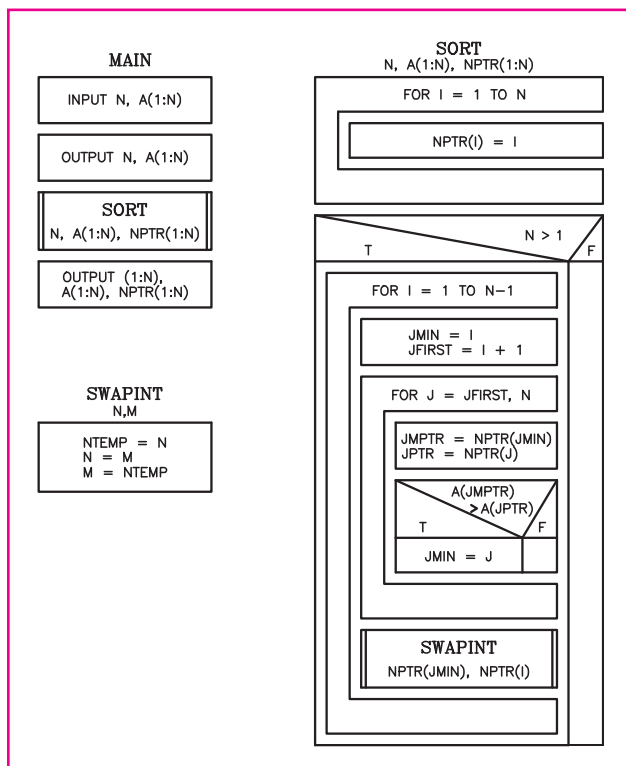

Fig. 20-12
7. Shown in Fig. 20-12 is a block drawing algorithm for a program that sorts numbers into ascending order by a method known as *sorting by pointers*. Use the **LINE** and **OFFSET** commands to draw the boxes. Then insert the text using the **romans.shx** font. For the words **MAIN**, **SORT**, and **SWAPINT**, use the **romanc.shx** font and make the text larger. For the symbol  $\triangleright$ , use the **symath.shx** font, character **N**.